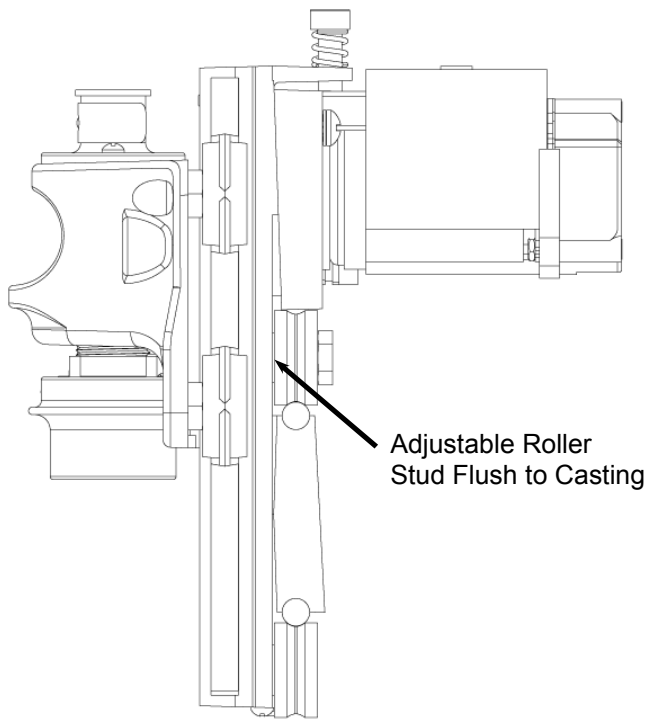

FIGURE 16: SIDE VIEW OF A PROPERLY INSTALLED Y-TRUCK
problem that must be avoided is creating a cant to the truck by not having the face of the roller stud flush with the Y-truck casting. See Figure 16 and 17 for a comparison of a properly and improperly assembled roller.
- d. After tightening check to see that the hex stud is till flush to the casting as in Figure 16.
- f. Next, turn the wrench counter-clockwise (as seen from the front of the machine) while holding the screw in place. Alternate tightening each roller only slightly to balance the preloading. After each tightening check to see that the hex stud is till flush to the casting as in Figure 16. The proper preload level is reached when you can no longer rotate the bearing against the rail with your fingers. If it is too loose you will be able to have the bearing skate across the rail surface without the truck moving. Once the rollers have the correct preload hold the wrench still and tighten the screw as much as possible by hand.